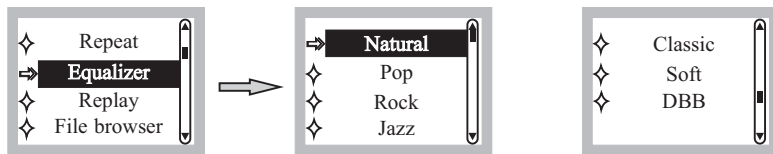

Fig. 13
(G) Equalizer Mode, Fig. 13:
- (1) Press PRV/TEN ◀◀ or NEXT/ TEN ▶▶ to select parameter.
- (2) Press PLAY/PAUSE ⏸ to confirm.
- (3)